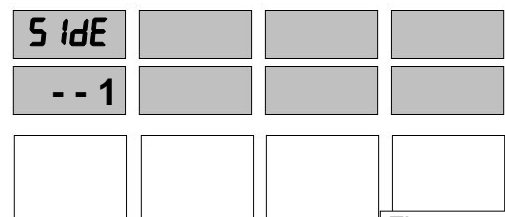

Figure 3.3
4. When access is gained, press the **CANCEL** button to exit. It is necessary to exit Menu Code 3 before the remaining protected menus can be accessed. The display shown in Figure 3.3 appears when the cancel button is pressed.